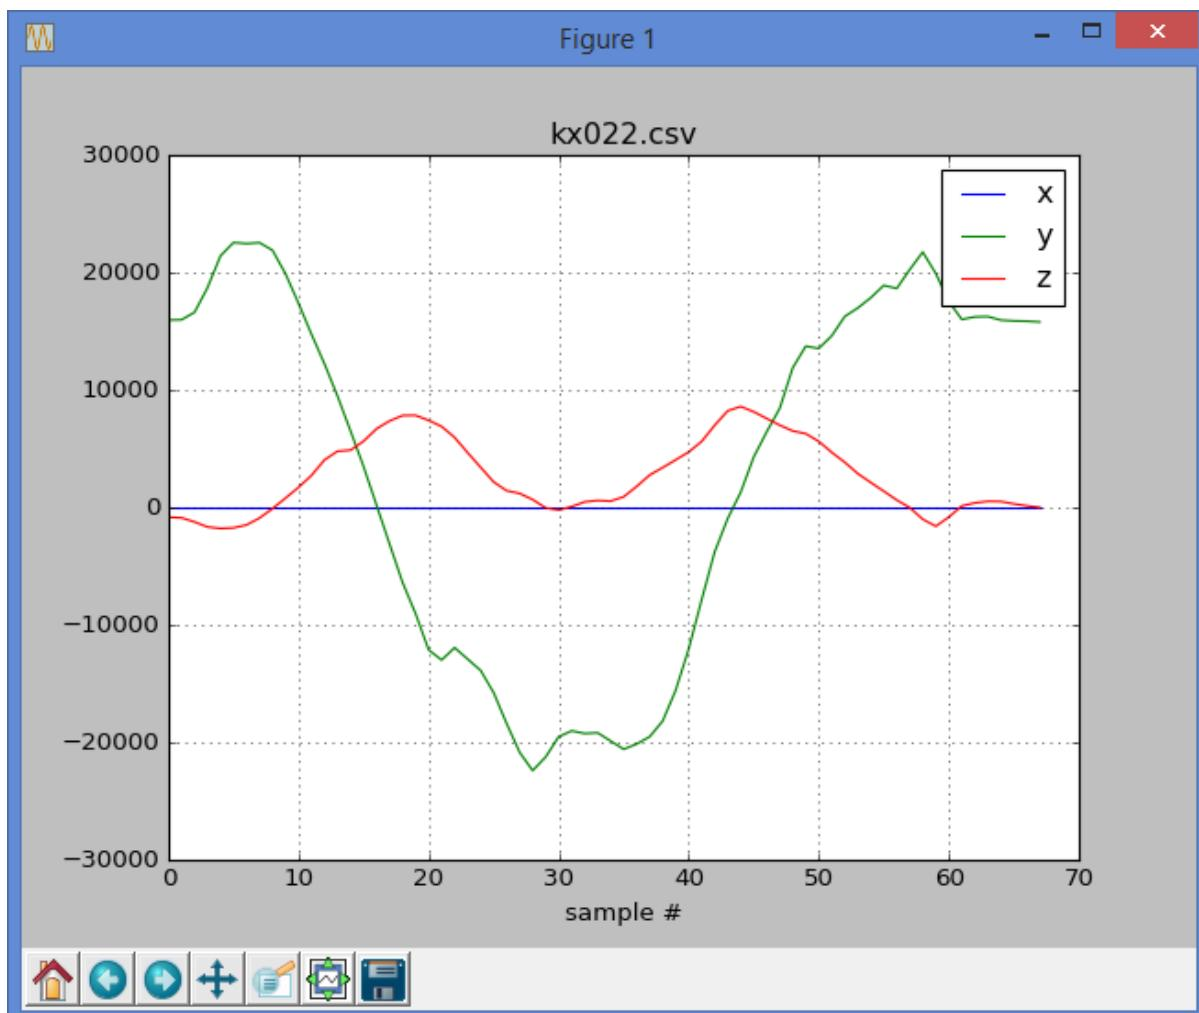

Figure 21: Recorded signals shown by the `plot.py` application.
- It is possible to view the recorded log with the `plot.py` application (Figure 21):